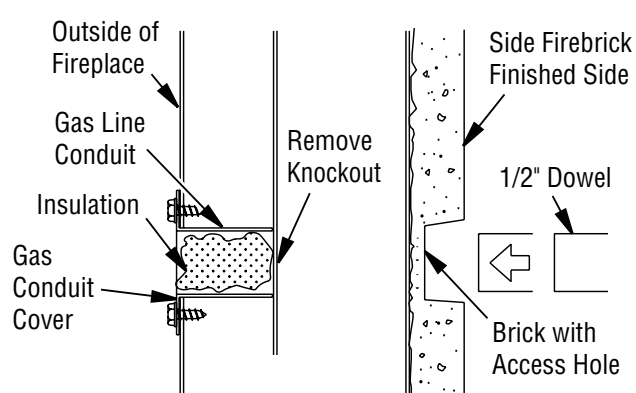

Figure 37 - Gas Line Access
1. Remove knockout indentation on refractory or firebrick wall located above refractory hearth floor. Knockout indentation must be firmly tapped with any solid object such as a 1/2" dowel until it is released. Remove fragmented portions of refractory (see **Figure 37**).